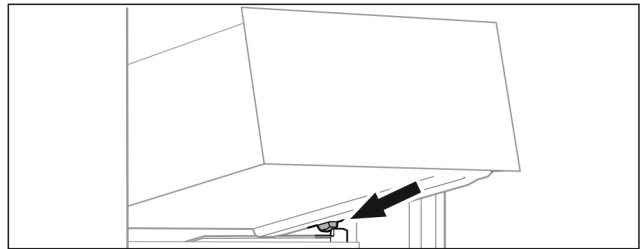

Fig. 93
- ▶ Place drawer at an angle behind the stoppers on the moulded rib. (see Fig. 93)